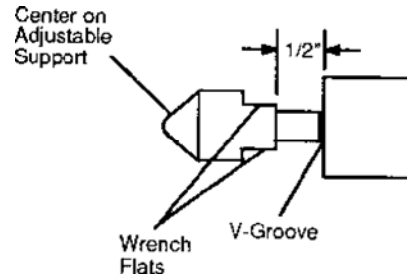

FIG. 27
2. Adjust the center on the adjustable (right) support so its V-groove just shows. See FIG. 27.